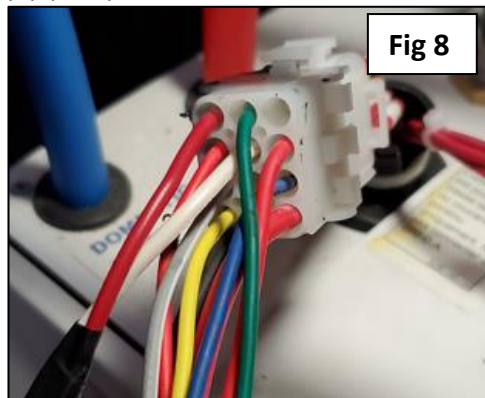

Fig 8
10. Connect the jumper harness to the auxiliary pump (Figure 8):